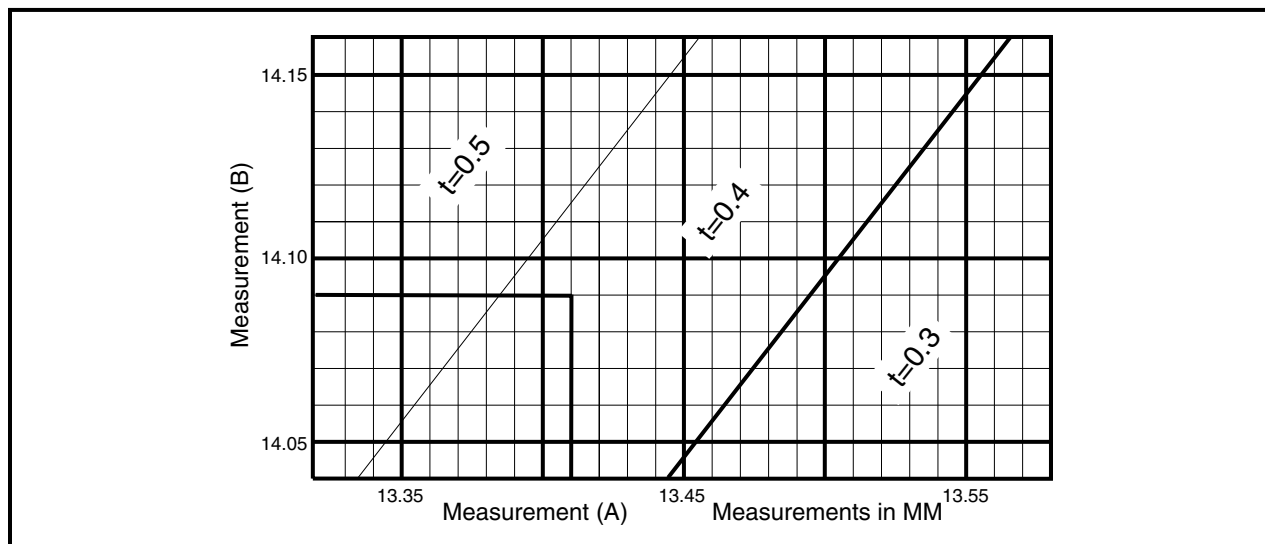

Figure 3-98 Camshaft Shim Table
2. Measure from the crankcase cover (3) mounting face to the camshaft bearing inner end (4). Record this measurement (B).
3. Locate the measurements on the Camshaft Shim Table. Follow the lines to where the recorded measurements intersect (**Figure 3-98, Page 3-44**).